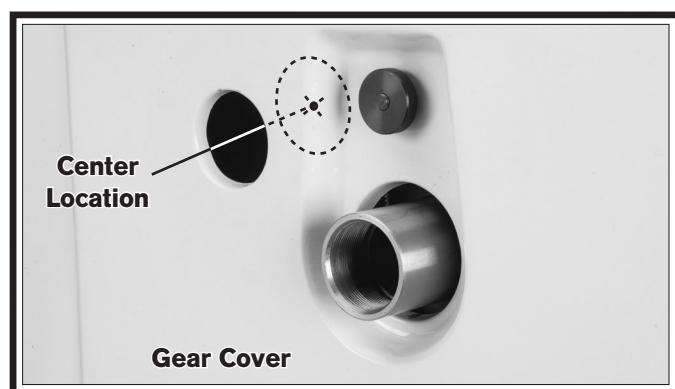

Figure 2. Base mounting location behind cover.
3. Looking through the hole in the gear cover, mark the center location of the hole on the headstock (**Figure 2**). The center location is where the center of the collet attachment base must be mounted.